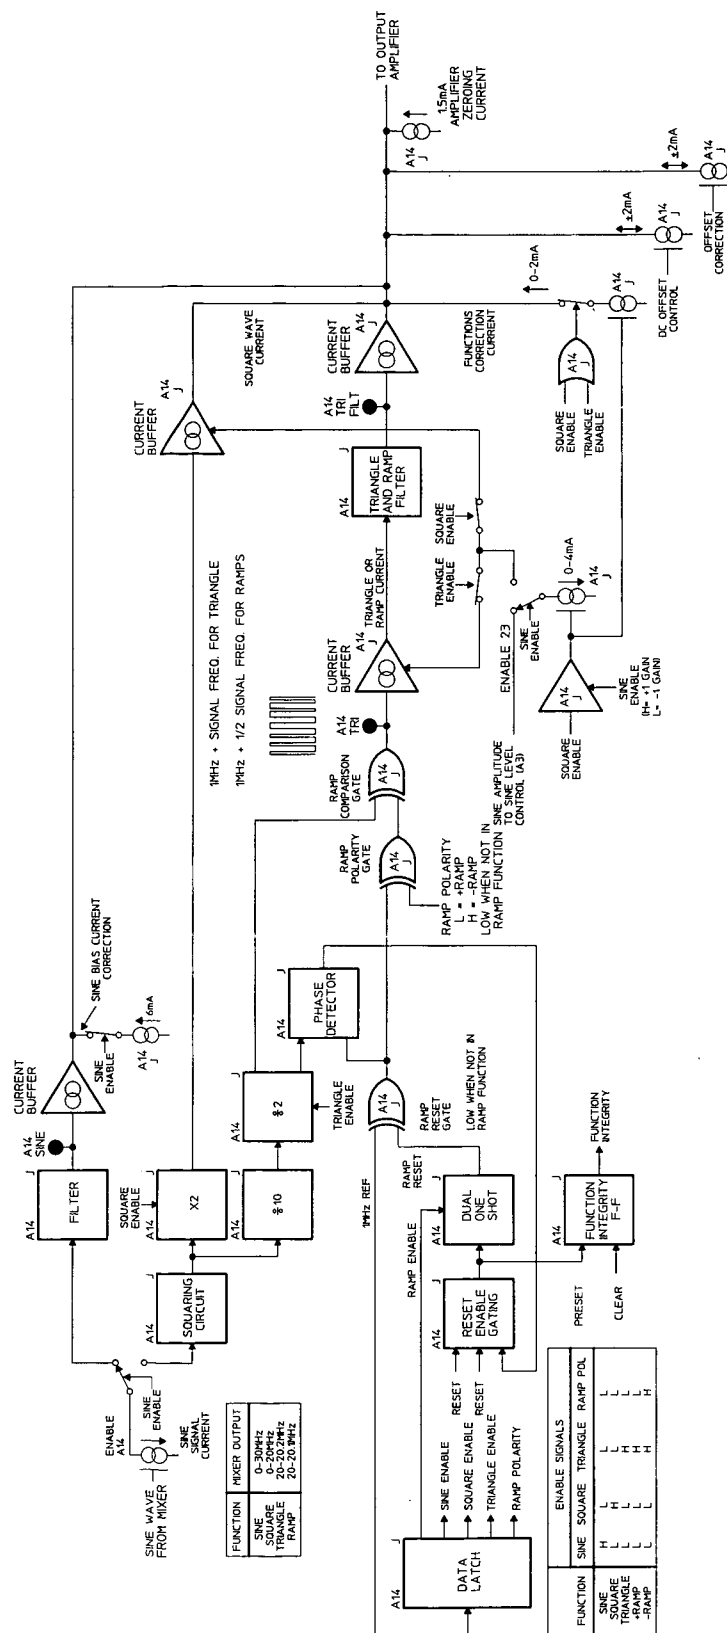
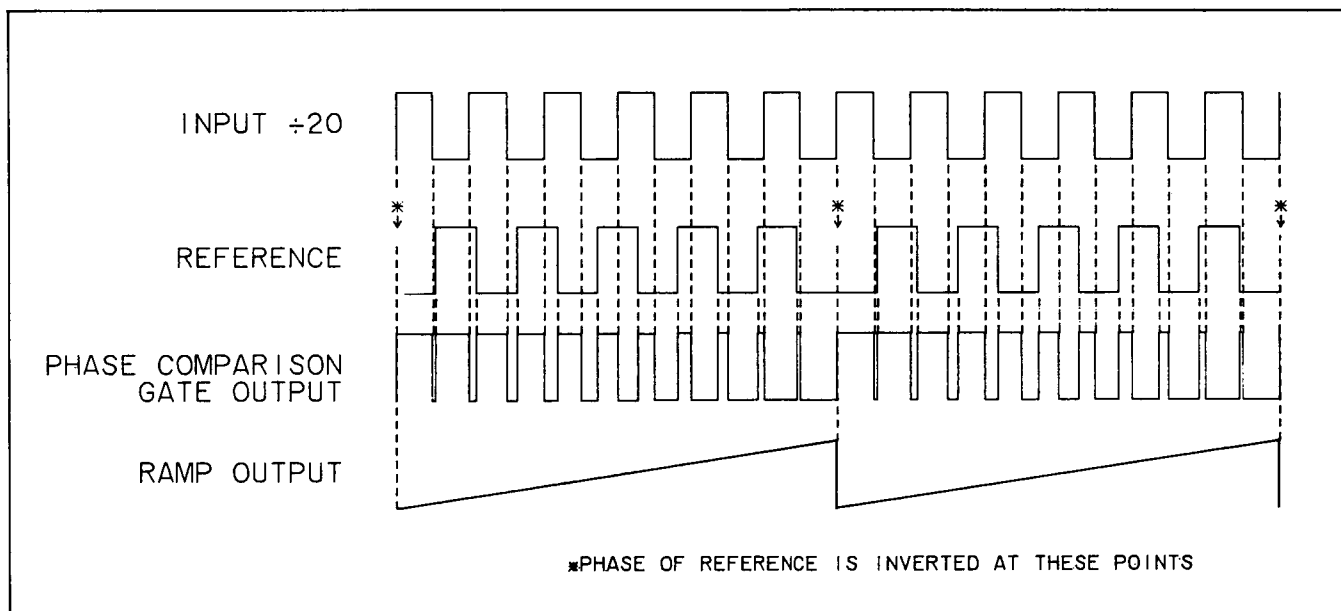

Figure 8-18. Enable Signals for Function Switching.
Figure 8-20. Simplified Illustration of Ramp Generation.
**8-64.** This section of the instrument provides the proper current to the operational output amplifier for each function. It includes a number of current sources, and the circuits which develop the square wave, triangle, and ramp functions from the sine wave. Function switching is accomplished by the enable signals shown in the block diagram, Figure 8-18.
**8-69. Positive and Negative Ramp.** A ramp output is generated in the same manner as the triangle, except that when the phase difference between the 1 MHz reference and the input  $\div 20$  has advanced  $180^\circ$ , the reference is inverted by the ramp reset circuits (Figure 8-18). Figure 8-20 illustrates the ramp generation process. Because the phase difference is allowed to advance only  $180^\circ$  instead of  $360^\circ$  as in triangle generation, the frequency of the "input  $\div 20$ " signal to the phase comparison gate must be 1 MHz plus one-half the output frequency. For the maximum ramp output frequency of 10 kHz:
**8-70.** Ramp reset may be initiated either by the phase detector output (Figure 8-18) or by a + or - ramp reset signal from peak detectors at the output amplifier. Each reset pulse causes the reference signal to be inverted at the output of the ramp reset gate.
control current source on and off, the entire signal is above ground. These signals are centered about ground by a compensating current equal to one-half the signal amplitude. This current is labeled Functions Correction Current in Figure 8-18. After calibration, additional dc offset correction is added by the control circuits. This current is labeled Offset Correction in Figure 8-18.